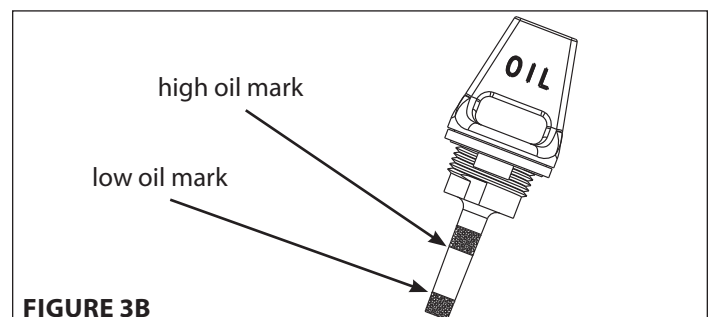

FIGURE 3B
4. Unscrew and check dipstick. If no oil shows on the dipstick, refill so that the oil level appears between the low and high marks on the dipstick. **SEE FIGURE 3B**